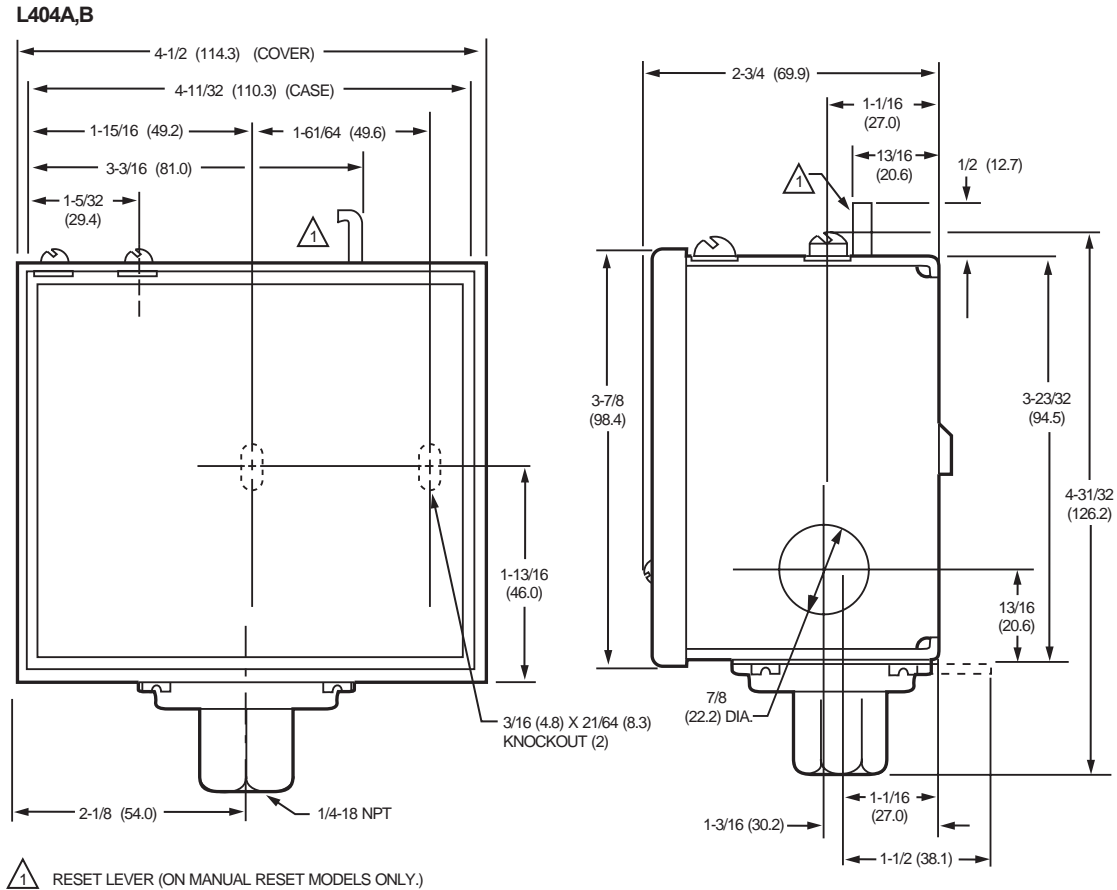

Fig. 1. Mounting dimensions of the L404A,B Pressuretrol® Controllers in in. (mm).
**Dimensions:** See Fig. 1. See Fig. 2 for mounting steam trap (siphon loop).